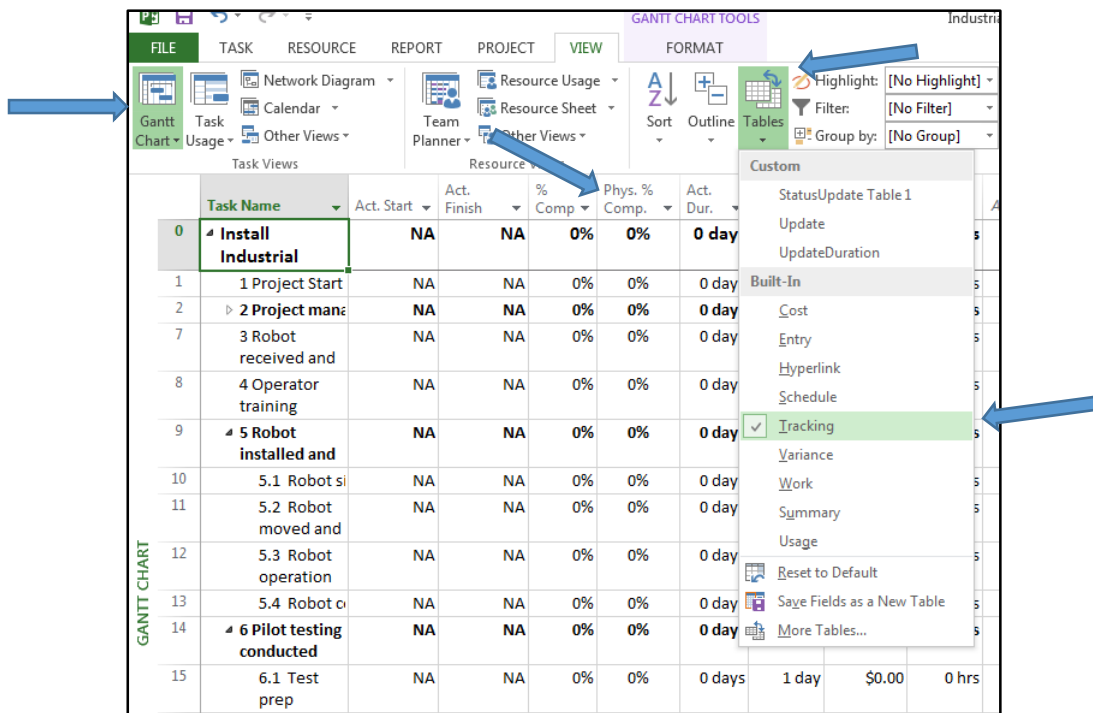

Figure 52
- In the Gantt Chart View, click Tables and select Tracking. In the Tracking Table there is a column for Physical % Complete. You can add values there (Figure 52).